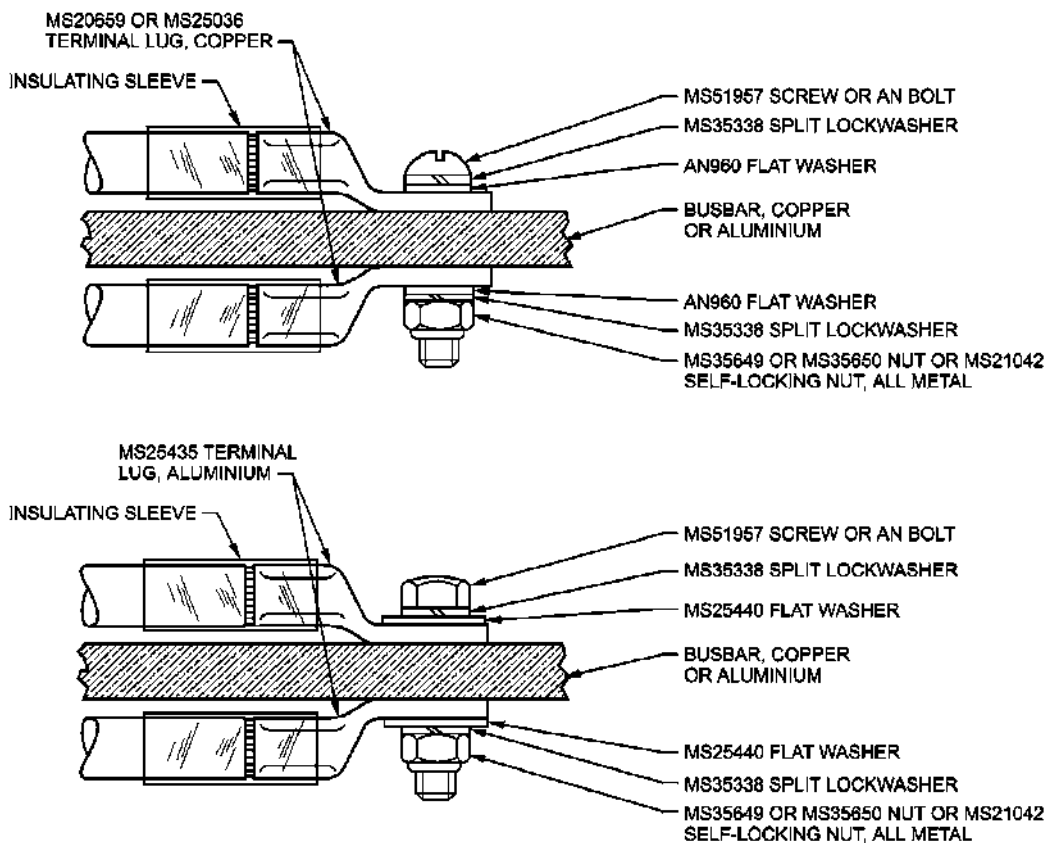

Figure 4-25 Connecting Two Terminals to Same Point on Busbar
73. Terminal lugs must always be in direct contact with busbar. As shown in Figure 4-25, connect one terminal lug to top of busbar and the other to bottom.